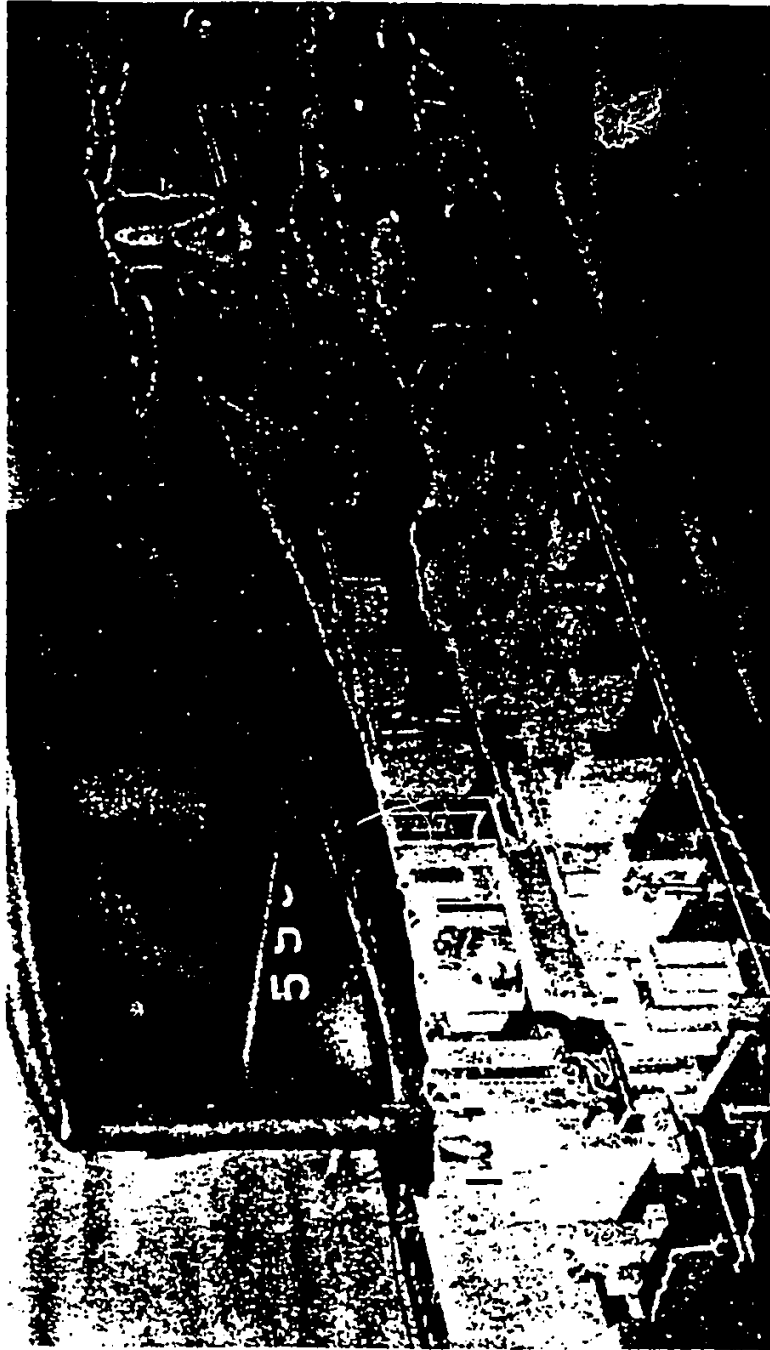

Figure 8
"The Mark 80 program is on schedule. The Mark 80 fire control system in the SSB(N) 598, figure 8, is being converted. No problems should arise because the Dam Neck system has been completely SPALTed and proven out.